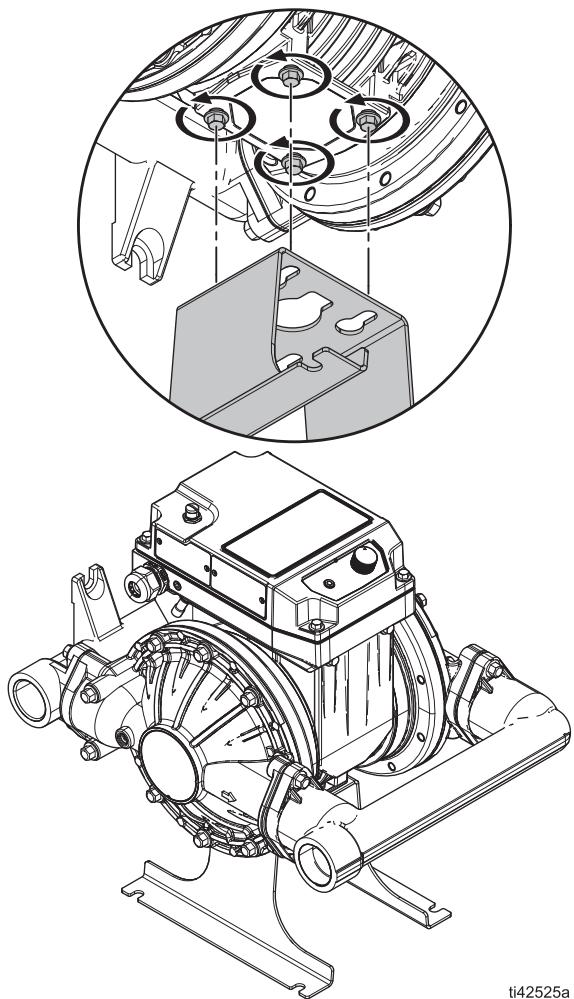

FIG. 2. Maintenance bracket stand
- a. Ensure that the control knob (22) is turned to off (0).
6. Optional: Mount the back of the pump (opposite side from the motor) to the maintenance bracket stand (see **Maintenance Bracket Stand**, page 52). This positions the pump facing up, enabling easy working access to the pump and motor. The stand can be mounted to a workbench through the mounting holes on the feet. See FIG. 2.